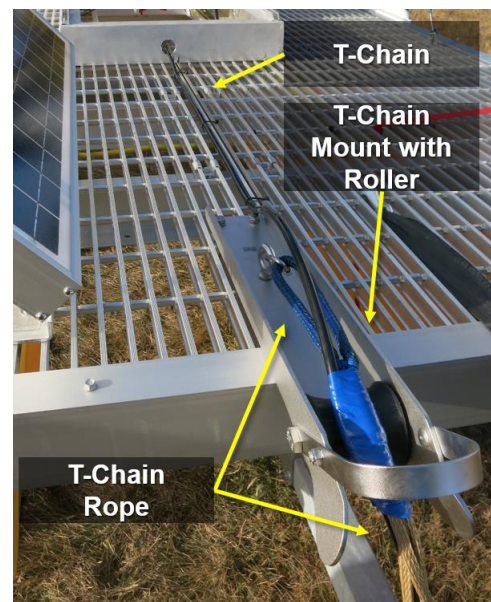

Figure 23. T-Chain and T-Chain Mount on Floating Deck
11. Inspect the Temperature Chain (T-Chain) attachment to the floating deck (see Figure 23) on the bow. The T-Chain is a single-cable string consisting of sensors that measure water temperature at specific depths in Celsius. The T-Chain varies in length per AIS Buoy site.